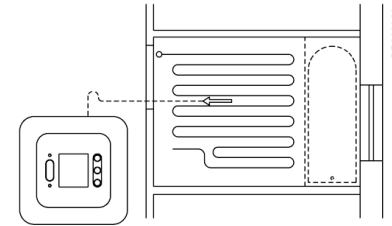

Fig. No. 1
- The temperature sensor is mounted in the floor as shown in Fig. No 1.